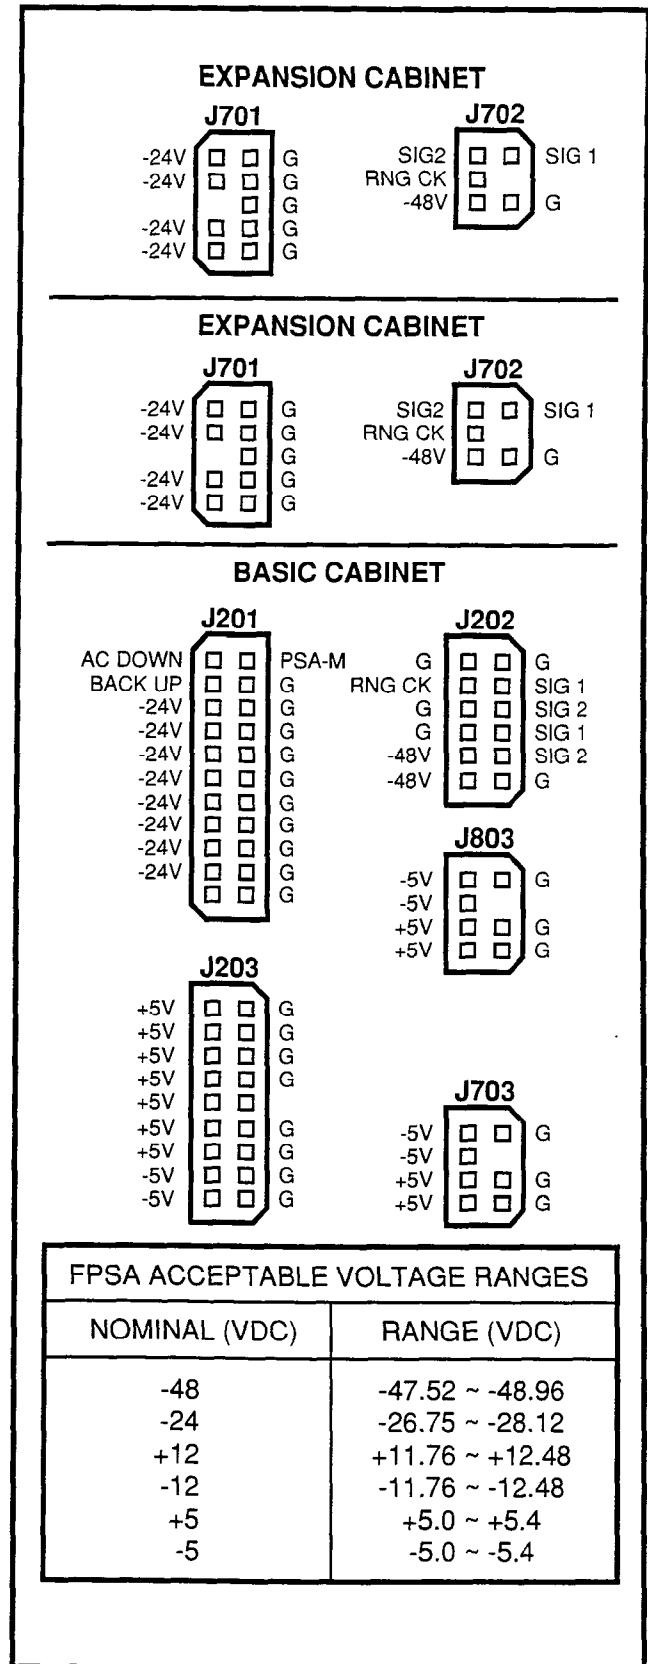

FIGURE 4-9—PERCEPTION_{ex} VOLTAGE CHECKS
- 13) Using a multimeter (set to the appropriate ranges), check the pins on connectors **J201**, **J202**, **J203**, **J703** and **J803** for the voltages shown in Figure 4-9. (The connectors are on the rear of the power supply chassis.) Measure between the voltage pin and a ground pin. (All ground leads are tied to a single point, so any can be used.) Figure 4-9 also shows the acceptable range for each output voltage. If a measured voltage falls outside of the acceptable range, replace the main power supply.
- 14) Turn the power supply **OFF** and then connect **J201**, **J202** and **J203**, respectively, as shown in Figure 4-9.
- 16) Using a multimeter (set to the appropriate ranges), check the pins on connectors **J701** and **J702** on the secondary power supply for the voltages shown in Figure 4-9. (The connectors are on the rear of the power supply chassis.) Measure between the voltage pin and a ground pin. (All ground leads are tied to a single point, so any can be used.) Figure 4-9 also shows the acceptable range for each output voltage. If a measured voltage falls outside of the acceptable range, replace the secondary power supply.